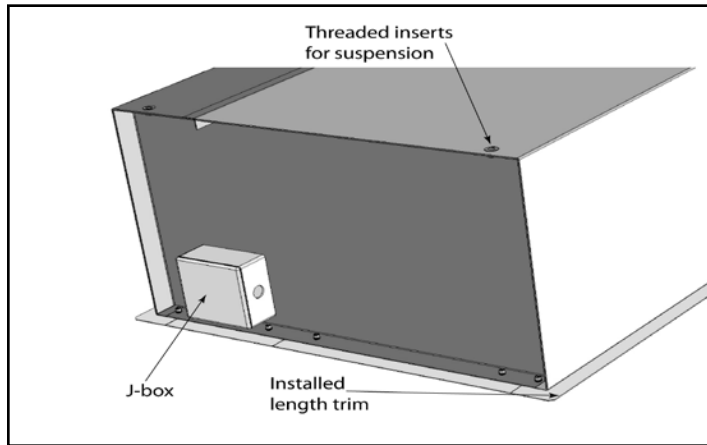

Figure 3
- A. The ICA/FCA series air door enclosure is equipped with four 5/16"-18 threaded inserts on the top of the unit for suspended mounting. **See Figure 3.**
F. Install the front and back trim using the provided fasteners. **See Figure 3.**